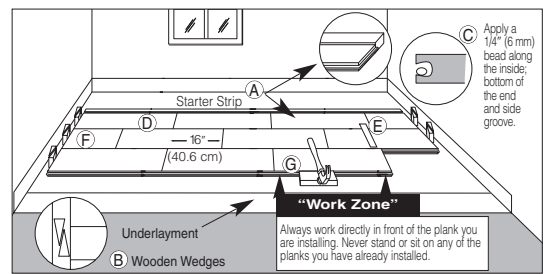

Figure 15
- Select the first board. All installations should begin with the groove side against the wall using the longest boards available. Apply a continuous 1/4" (6 mm) glue bead to the inside bottom of the groove on the end of the board. Do not apply glue to the groove side at this time (Item C, Figure 15). Products with the end tongue on the left should be installed right to left, opposite tongues should be left to right. (Item D, Figure 15). If a sacrificial board was used DO NOT glue the first row to it.
- Complete the first row. Cut the last board allowing for 1/2" (13 mm) clearance between the wall and the floor. (Use the remaining end of the cut board as a starter board for any row following row three). Install a wedge on the end of the board between the hardwood flooring and the wall, allowing 1/2" (13 mm) expansion space. Avoid installation of any boards shorter than 16" (40.6 cm) in the first four rows. (Item F, Figure 15).
- Use a pull bar to pull the last board into place from the opposite end. Install wedges into the gap and tighten (Item B, Figure 15).
- Cut or use a shorter board for the first board of the second row. Start the second row by applying a 1/4" (6 mm) bead along the inside bottom of the end and side groove of the new board. Install the first board of row two. Apply a bead of glue to the inside bottom of the end and side groove of the next board and install. When installing boards together, use a tapping block against the tongue, not the groove (Item G, Figure 15). Tap the boards into place by tapping with a hammer on the tapping block. DO NOT tap on the edge directly with the hammer. Complete the second through fourth rows using this technique. Insert wedges on the ends as necessary, to restrain the movement of the floor.